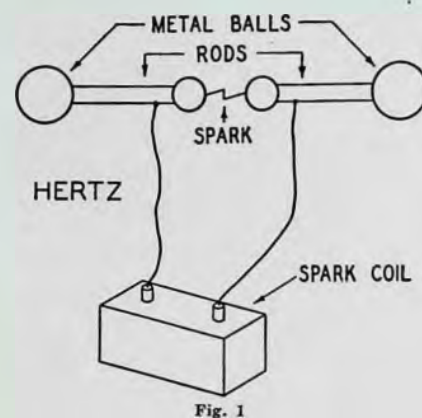

Fig. 1
Originally the situation was simple. Heinrich Hertz used an antenna like that of Fig. 1.
and (2) the converter won't need that much B power. A resistance and capacity filter is entirely adequate. It is also the type in which the rectifier tube feeds into a relatively high A.C. impedance which is easier on the rectifier tube than the more usual arrangement where the rectifier tube feeds into a condenser or relatively lower A.C. impedance. The filter system is shown in Fig. 1.
Note—Through a drafting error the high-voltage center tap in Fig. 1 is shown off-center.—Ed.